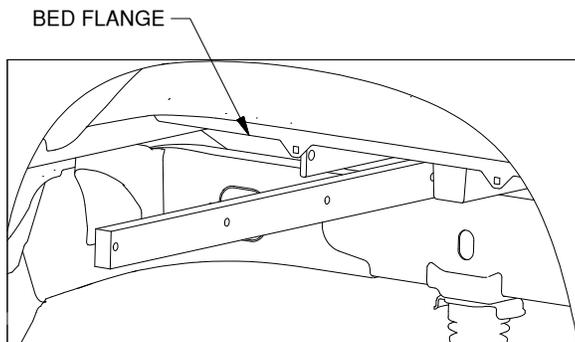

Figure B5: View looking into driver side wheel well.
3. **Install rear cross member.** Starting in the driver side wheel well, orient the cross member so that the bar is vertical, and the threaded holes are closer to the top of the bar. Pass the cross member between the bed and the frame until it rests on the passenger side frame, see Figure B5. Center the cross member between the bed flanges on either side of the truck. Push the cross member back against the bed cross member to make room for the center section.